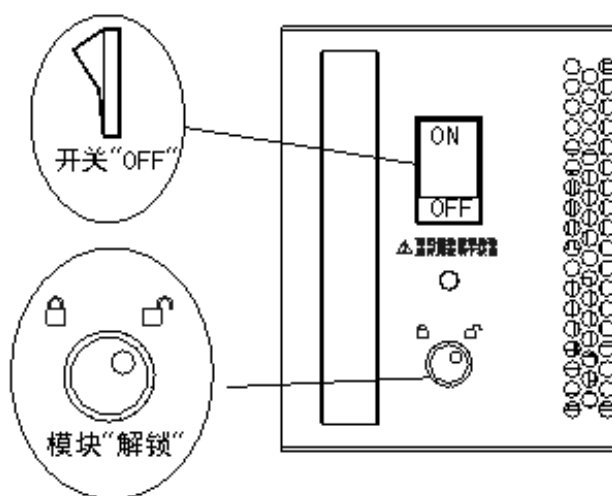

Fig.7.1
1. Set the input breaker of the UPS module to the OFF position and set the position lock located on the front panel of the module to “” (Fig.7.1) .